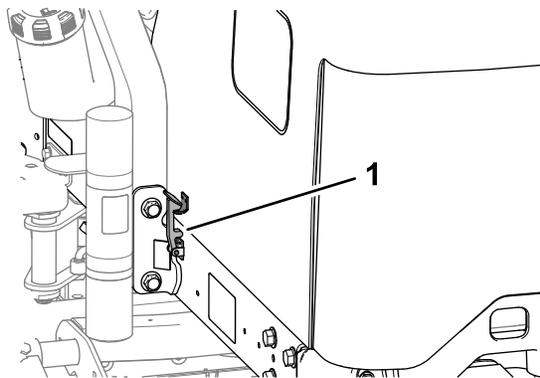

Figure 54
2. Rotate the hood up and back (Figure 54).